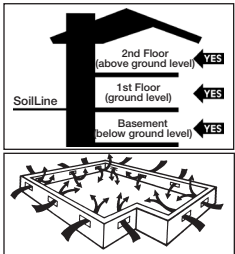

Figure 1
- Crawl spaces must be a minimum of 18 in. (46 cm) from the ground to the underside of the joists. A ground cover of 6-20 mil black polyethylene film is essential as a vapor barrier with joints lapped 6 in. (15 cm) and sealed with moisture resistant tape. The crawl space should have perimeter venting equal to a minimum of 1.5% of the crawl space square footage. These vents should be properly located to foster cross ventilation (Figure 1).